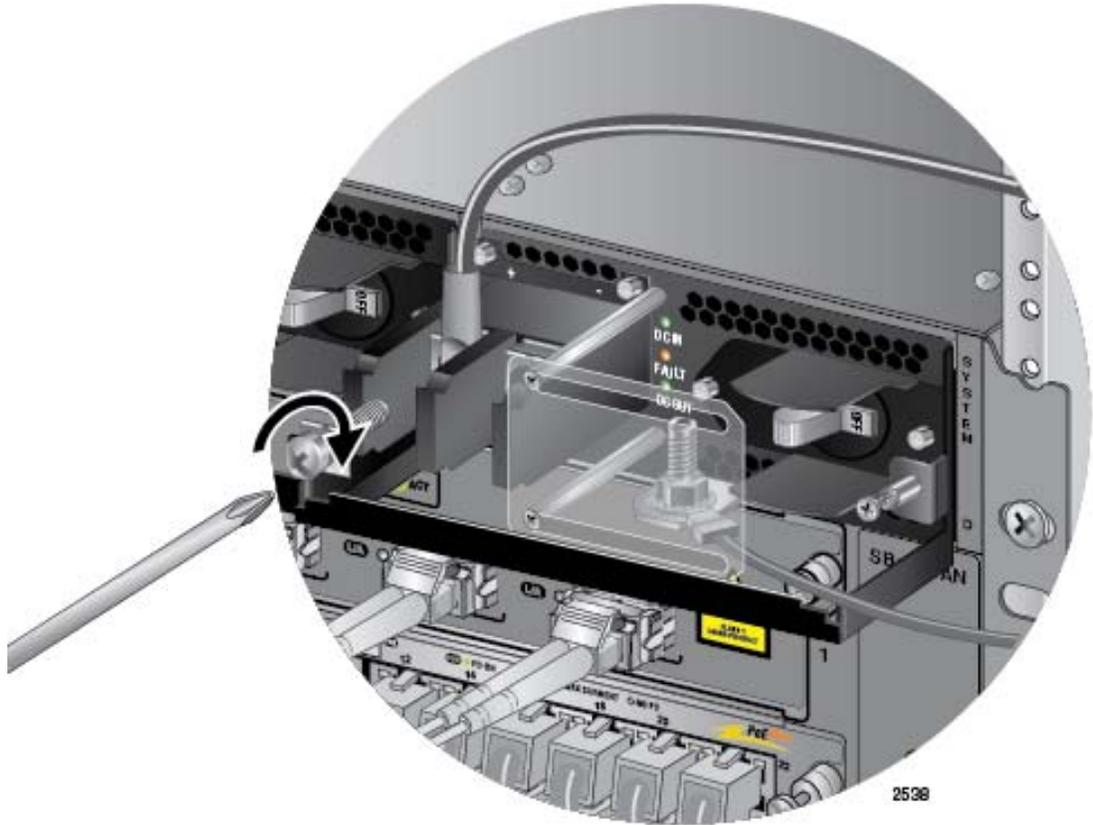

Figure 125. Connecting the Positive (+) Power Wire with a Straight Terminal
6. With a #3 Phillips-head screwdriver, connect the positive (+) power lead wire to the positive terminal on the power supply, with one of the terminal screws removed in the previous step. The positive terminal is on the left. You may attach the terminals with the wires either above or below the terminal block. Figure 125 on page 186 shows the wires above the terminal block.